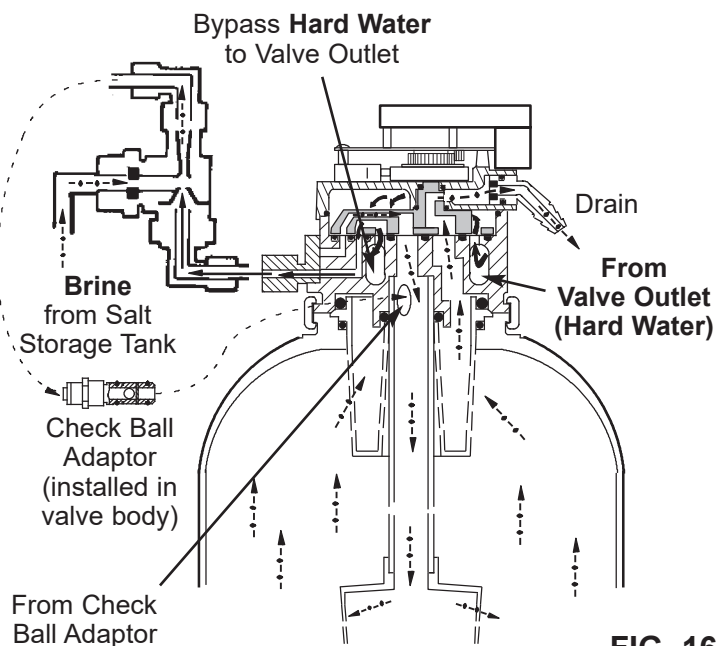

FIG. 16
**BRINING / BRINE RINSE (Figure 16):** The controller energizes the valve motor, moving the valve into brining. A port opens to route water to the nozzle. Flow through the nozzle and venturi creates a suction on the brine tubing and brine valve, drawing brine from the salt storage area. Brine mixes with water at the nozzle/venturi, and travels back to the valve. Flow continues down the internal standpipe and into the resin bed. As brine passes through the resin bed, hardness minerals are released from the resin and carried with the flow of water, to the drain.